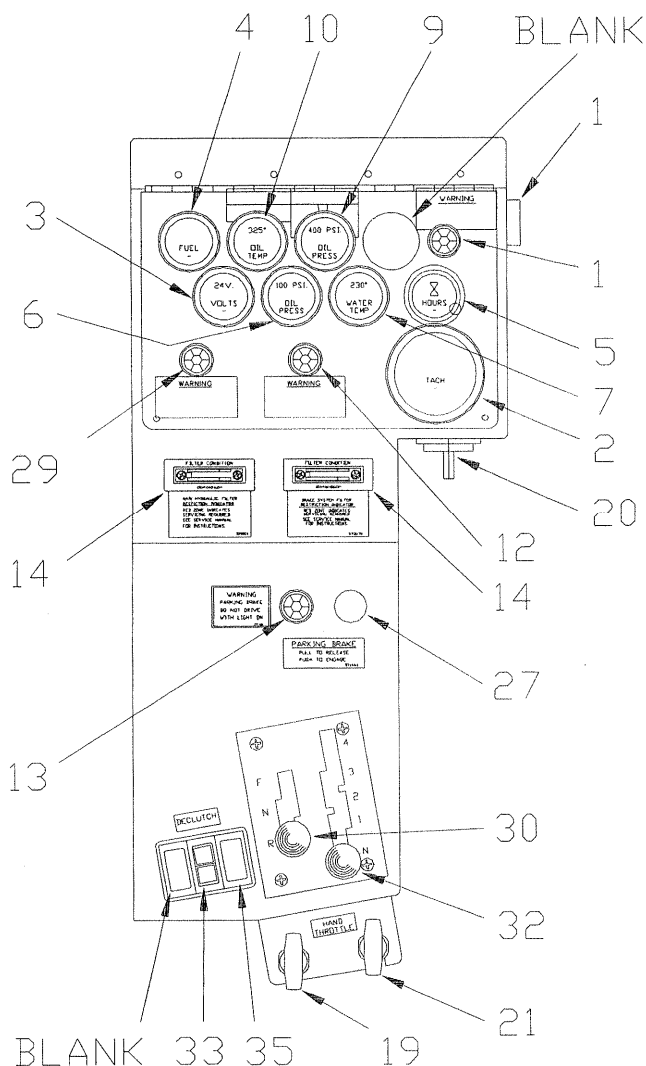

Fig. 3-12 Left Hand Console
See Fig. 3-12
## 19. Cold Start Control See Fig. 3-12 (Optional)
## 20. Key Switch See Fig. 3-12
## 21. Hand Throttle See Fig. 3-12
27. **Parking Brake Control** See Fig. 3-12
28. **Brake Pedal** See Fig. 3-12
30. **Transmission Direction Control** See Fig. 3-12
32. **Transmission Range Control** See Fig. 3-12
### 33. Declutch Control See Fig. 3-12